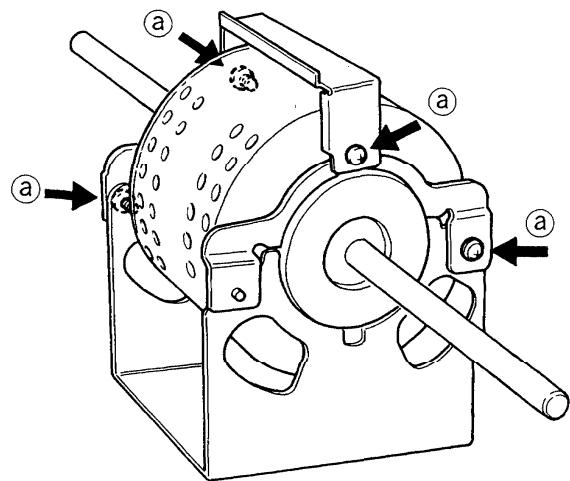

Fig. 13
8) Remove the four screws ② fixing the motor. Fig. 13